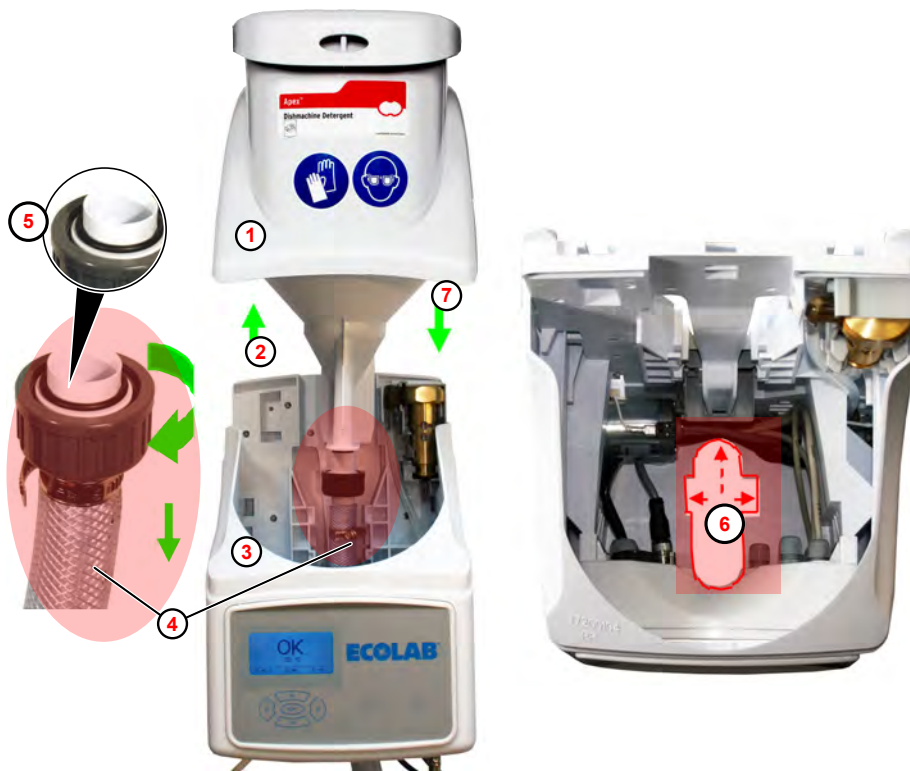

Fig. 13: Removing the funnel
1. ➤ Pull funnel (Fig. 13 , ①) upwards and out ② .
2. ➤ Pull the funnel and outlet hose ④ upwards out of the housing.
4. ➤ Clean the O-ring ⑤ by hand.
6. ➤ Hold all the connecting leads in the housing away from the funnel shaft ⑥ .
7. ➤ Push the funnel back into the housing ③ from above ⑦ .
8. ➤ Screw the outlet hose ④ back onto the funnel until hand-tight.